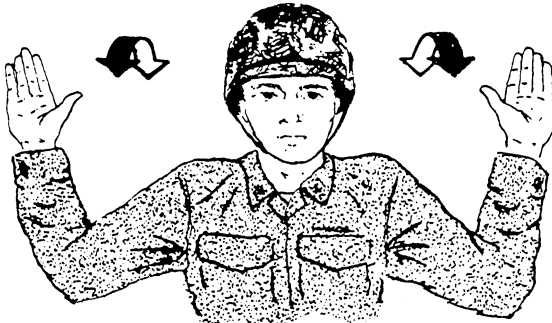

Figure 11-30.—To direct helicopter backward.
2. To Direct Helicopter Backward. Extend your arms and hands above your head with your palms facing toward the helicopter. Move your hands in a manner that simulates a pushing motion. (See fig. 11-30.)